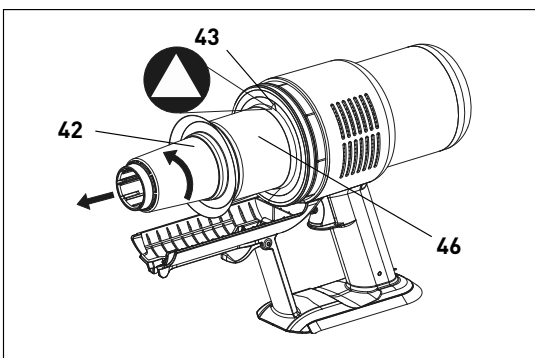
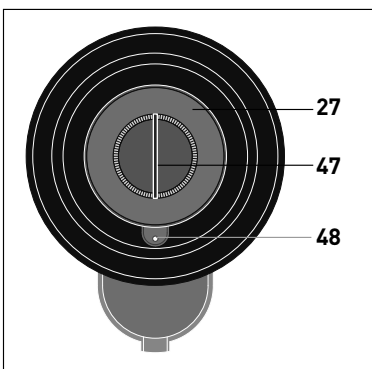

Figure 17
Figure 19
Cleaning out the Cyclone Unit - Figures 13-18 - Dust can accumulate in the cyclone unit (42). To remove the cyclone unit for cleaning, remove the adapter and dust bin (figures 13-16). Unlock the cyclone unit by gripping the front plastic cone and turning counter-clockwise until the arrow (43) aligns with the open lock symbol (44) on the housing (figures 17 & 18).
Changing the Motor Protection Filter - Figures 13-19 - To remove the motor protection filter (27), remove the adapter and dust bin (figures 13-16). Remove the cyclone unit (figures 17 & 18). The filter can be simply pulled out with the handle (#47 figure 19). When inserting the new filter, line the notch (48) on the filter with the indentation on the filter housing.
Changing the Micro Hygiene Filter - Figures 13-17, 20 - To remove the micro hygiene filter (28), remove the adapter and dust bin (figures 13-16). Remove the cyclone unit (figures 17 & 18).